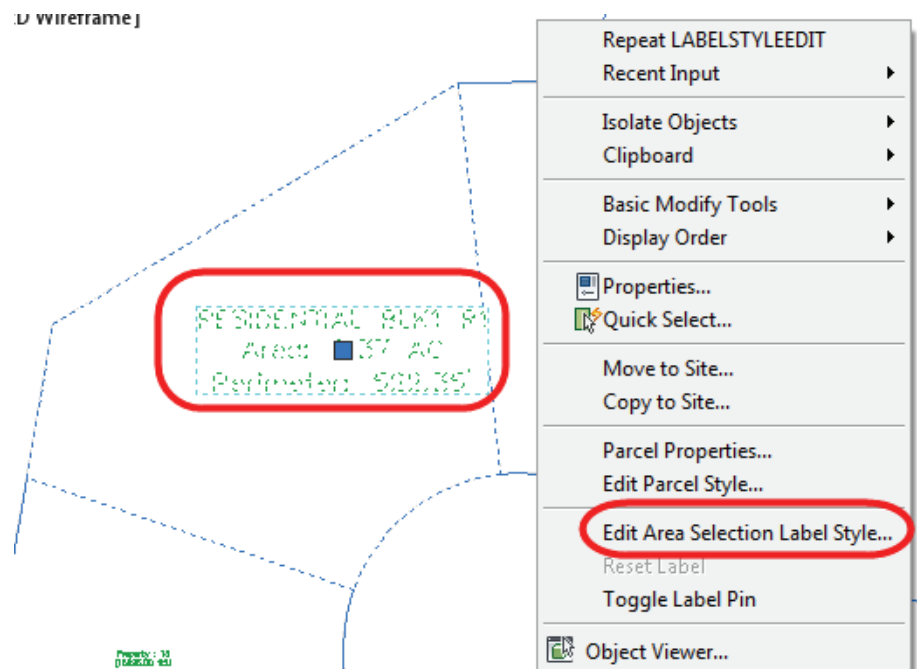

Figure 2–44
3. Before renaming the newly created parcels, you first have to change the label style of the original parcel. Select the parcel label **RESIDENTIAL BLK1 R1**, right click, and select **Edit Area section Label Style**. Select **Parcel Name - Area** as the style and click **OK** to apply the changes and close the dialog box, as shown in Figure 2–44.